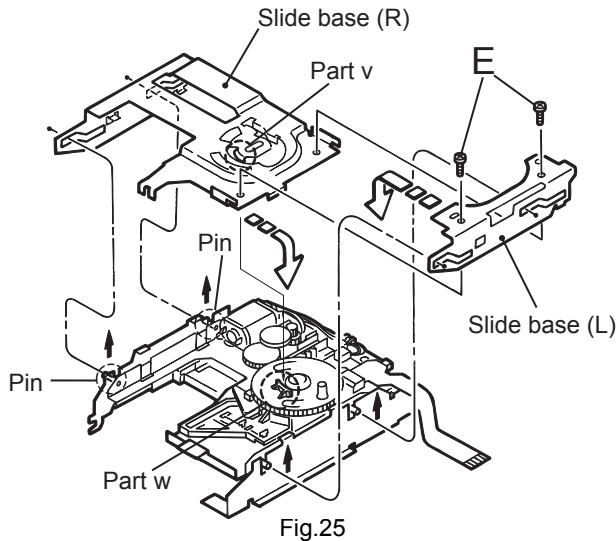

Fig.25
(9) Reattach the slide base (R) while fitting the two pins on another side of the UD base to the slots of the slide base (R). (Fig.25)